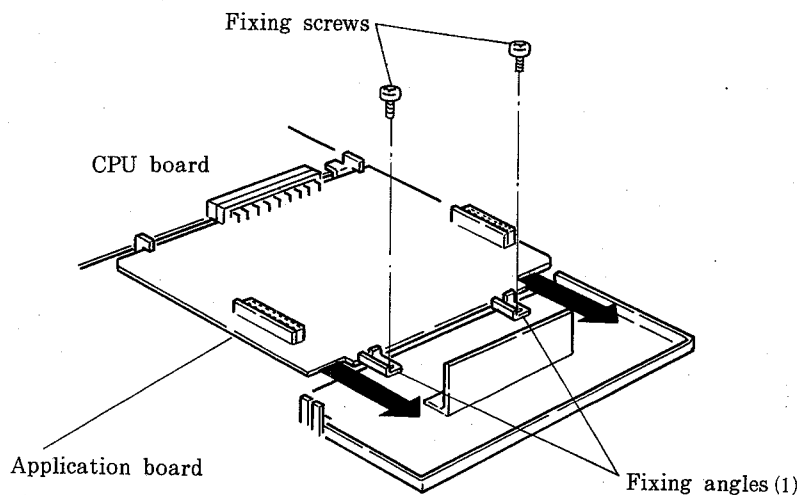

Fig.15
- c) Remove the fixing screws (2 pcs.) of the application board. (See Fig.15 below.)
- d) Pull the fixing angles (1) of the application board in the direction of arrows to disconnect the application board from the CPU board. Then lift the fixing angles (1) to remove the application board. (See Fig.15 above.)
- (6) Connect a service battery to the battery connector (CN8) on the CPU board, and disconnect the main body battery from the battery connector (CN7).